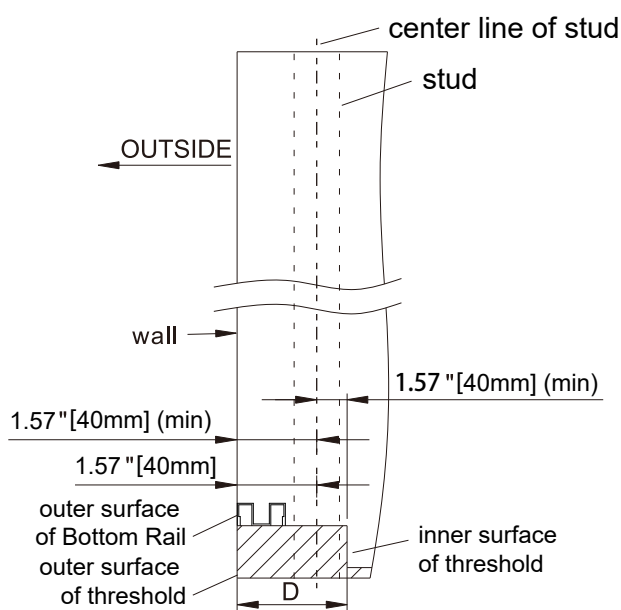

Fig 2.1
- This shower door must be mounted to a stud. Minimum threshold space is required. IMPORTANT: Using a stud finder, ensure the wall intended to hold the door has a stud at the installation point. A stud in this location must be identified to support the support bar in order to proceed with the installation. If there is no stud in the shown area, we recommend employing a qualified contractor to install one. (Fig 2.1)
1. Using a **pencil** and **stud finder** to mark the **center line of stud**. Mark the **center line of stud** on one side as measurement "A" then mark the **center line of stud** with same measurement on the other side. Make sure the distance between **center line of stud** and the **inner surface of threshlod** is bigger than **1.57" [40mm]** and the distance between **center line of stud** and the **outer surface of threshlod** is bigger than **1.57" [40mm]**. (Fig 2.1)